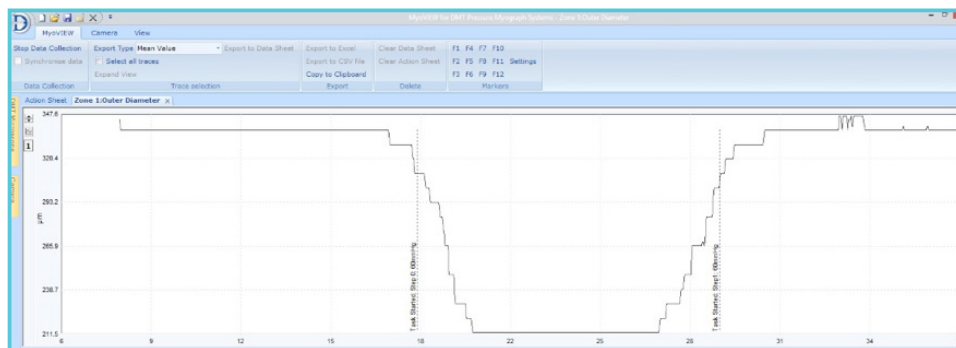

Figure 2.29 Experiment using the sequencer. The sequencer tasks are listed in the trace as marks
- Show description on trace when task starts: If this is selected the free text from Description will be written on the traces when the task starts (see figure 2.29).
- Temperature (C): Chamber temperature (RT-50°C).